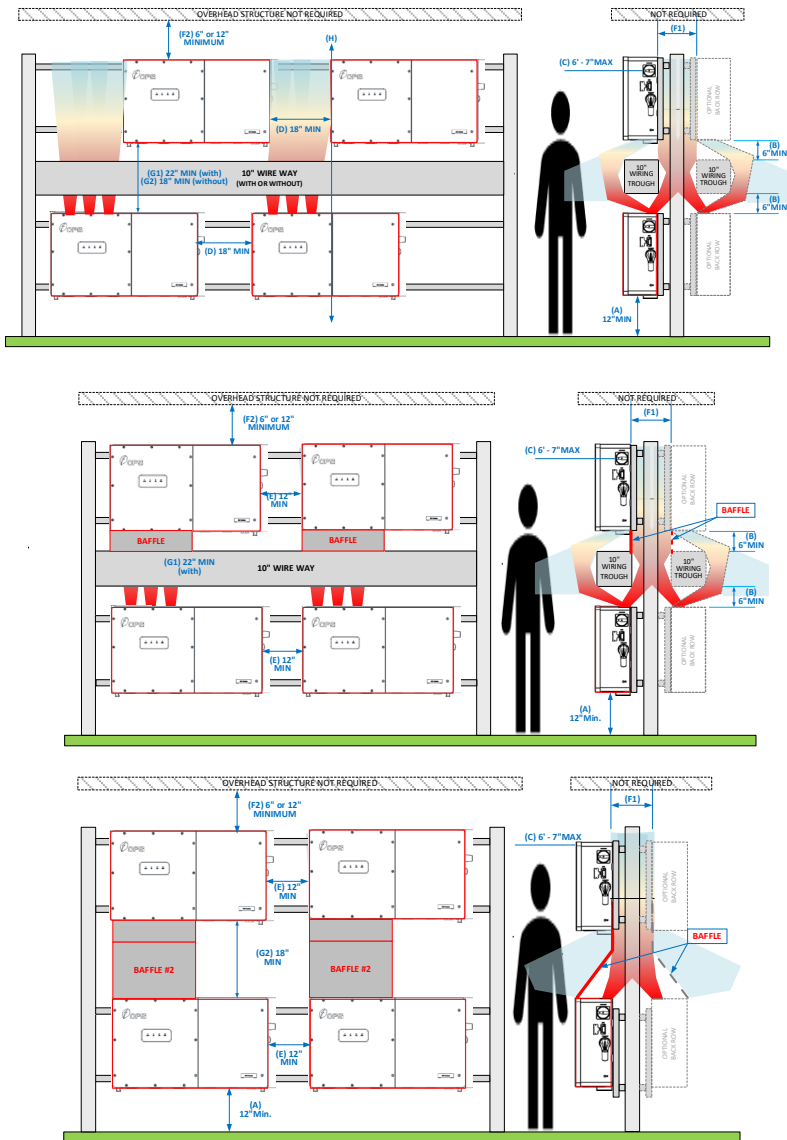

Figure 3-4a, b, c
(3) Installation Space Requirement (see Figure 3-4a, b, and c):
- (A) Minimum Height from the ground (12 Inches minimum):
- (B) Minimum height between air intake or air exhaust. 6-inches is the smallest allowable distance.
- (C) The NEC specifies the maximum allowable height for a disconnect MUST be 6' - 7" Maximum.
- (D) The distance between side by side inverters SHOULD be greater than 18".
- a. This dimension depends on if the inverters are stacked and staggered (Figure 3-4a) or not. The stacked and staggered configuration does not require a baffle since the exhaust of the lower unit is directed between the inverters above.
- (E) The distance between side by side inverters SHOULD be greater than 12" – except in case (D) above.
- (F) (F1) This dimension will be determined primarily by the structural strength required to support the inverters. There MUST be a vertical chimney for the exhaust air of at least 50 square inches directly above and per inverter. (F2) The clearance above the inverter chimney MUST be greater than 6" per stacked inverter. The front and rear of this dimension MUST be open to allow horizontal air-flow.
- (G) (G1) In the case of a wire-way installed between the stacked inverter, the clearances MUST meet (B) and (C) above. For a 10" wire-way this would be 22" minimum. (G2) If no wire-way is installed, the minimum clearance MUST be greater than 18".
- (H) In the staggered configurations, the vertical alignment MUST be as shown.
If inverters are stacked and meet (C), Baffles must be installed unless the inverters are staggered per Figure 3-4a. This configuration also allows ease of conduit routing without a wire-way.